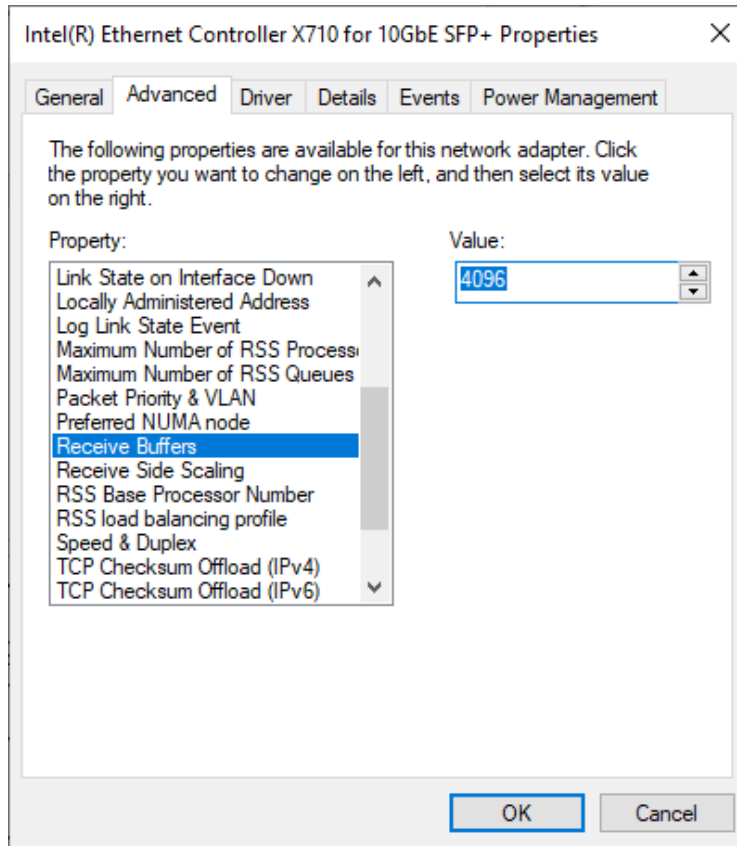

Figure 9 Receive Buffers
4) On “Receive Buffers” window, set value to the maximum value, as shown in Figure 9.